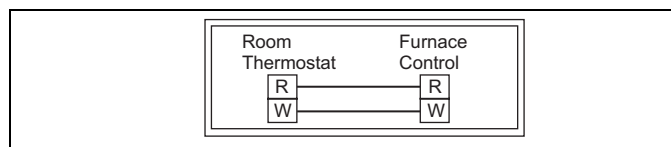
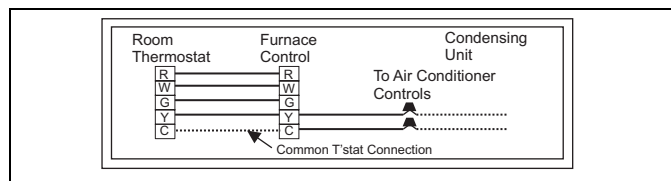

FIGURE 21: Wiring for Heat Only Thermostat
FIGURE 22: Wiring for Electronic Heat-Cool Thermostat
2. Connect the thermostat wires to the furnace low voltage pigtails. See Figure 21 (heating only) and Figure 22 or 23 (heating and cooling).